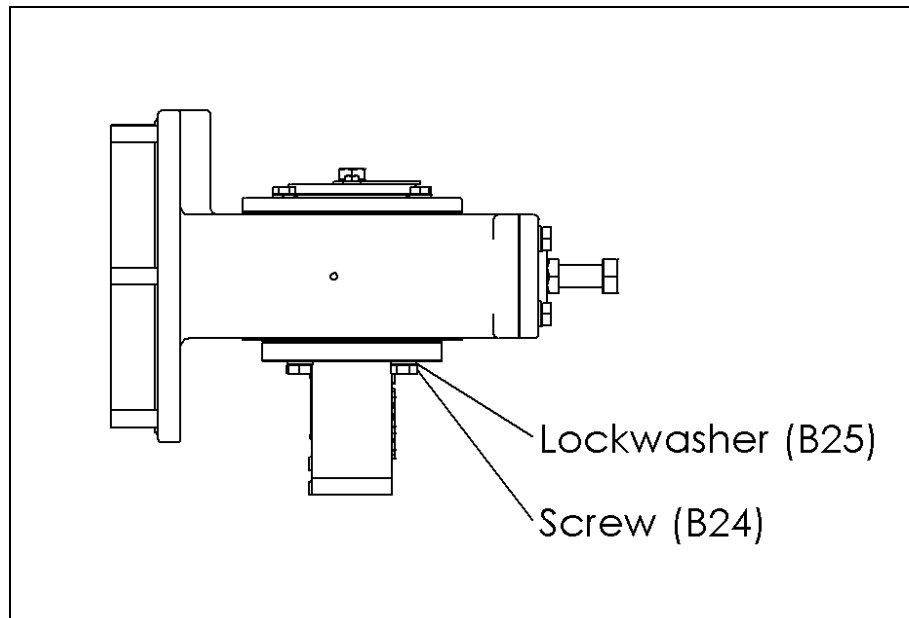

Figure 3 – Connecting Parts Identification
3. Remove screws (B24) and lockwashers (B25) and lift actuator assembly off valve. See Figure 3 for connecting parts identification.